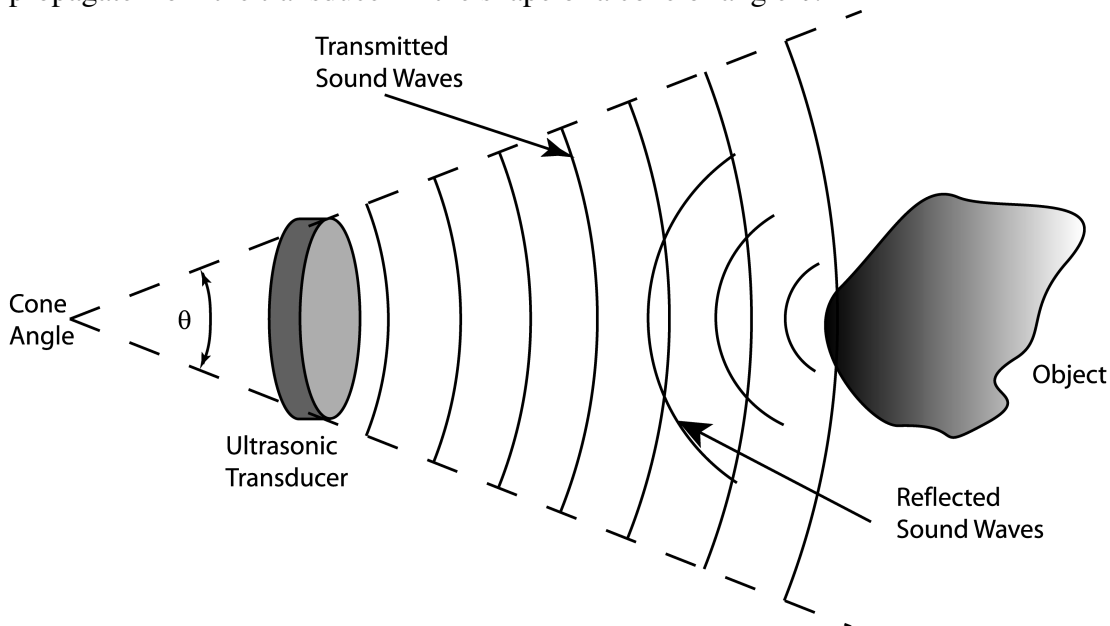

Figure 1. Functionality of a generic sonar sensor.
Figure 1 below shows a simple schematic of a generic sonar sensor in action. An ultrasonic burst of energy is emitted from the transducer. This is known as a *ping*. The sound waves travel until reflected off of an object. The echoed sound wave returns to the transducer. The echo may be of smaller amplitude, but the carrier frequency should be the same as the ping. An external timer records the time of flight (the time that the sound waves take to travel to and from the object), which can be converted to distance when considering the speed of sound in air. As the transmitted sound waves propagate from the transducer, they spread over a greater range. In other words, the sound waves propagate from the transducer in the shape of a cone of angle θ .
The sonar we will be using in the lab and on the project is the Devantech SRF04 Ultrasonic Range Finder. An important feature that distinguishes itself from the generic sonar sensor in Figure 1 is that it has a separate transmitter and receiver. This allows for the smallest minimum detectable distance. The frequency of the ping is 40 kHz. The reason for a 40 kHz frequency sound wave is to reduce the chances of false echoes. For example, it is unlikely that a 40 kHz sound wave will come from any other source other than the actual ultrasonic sensor itself. The external timing circuit looks for a 40 kHz return signal to identify it as an echo. An advantage of the SRF04 (over the Polaroid units) is that the frequency generating circuit is integral to the printed circuit board supporting the transducers. This minimizes the amount of wiring needed to utilize the sensor. More information on the SRF04 can be found by clicking on the links on the class web page associated with this lab exercise, which take you to www.acroname.com, distributor of the SRF04, as well as many other useful robotics related devices. Following are direct links to the SRF04 information pages:
7. Using a small object, such as an empty soda can or floppy disk, determine the cone angle, as shown in Figure 1. Collect data at several distances from the sonar unit so that you can make a plot representing the cone angle for your report. Compare your data with that supplied by Acroname (see the web links described earlier).